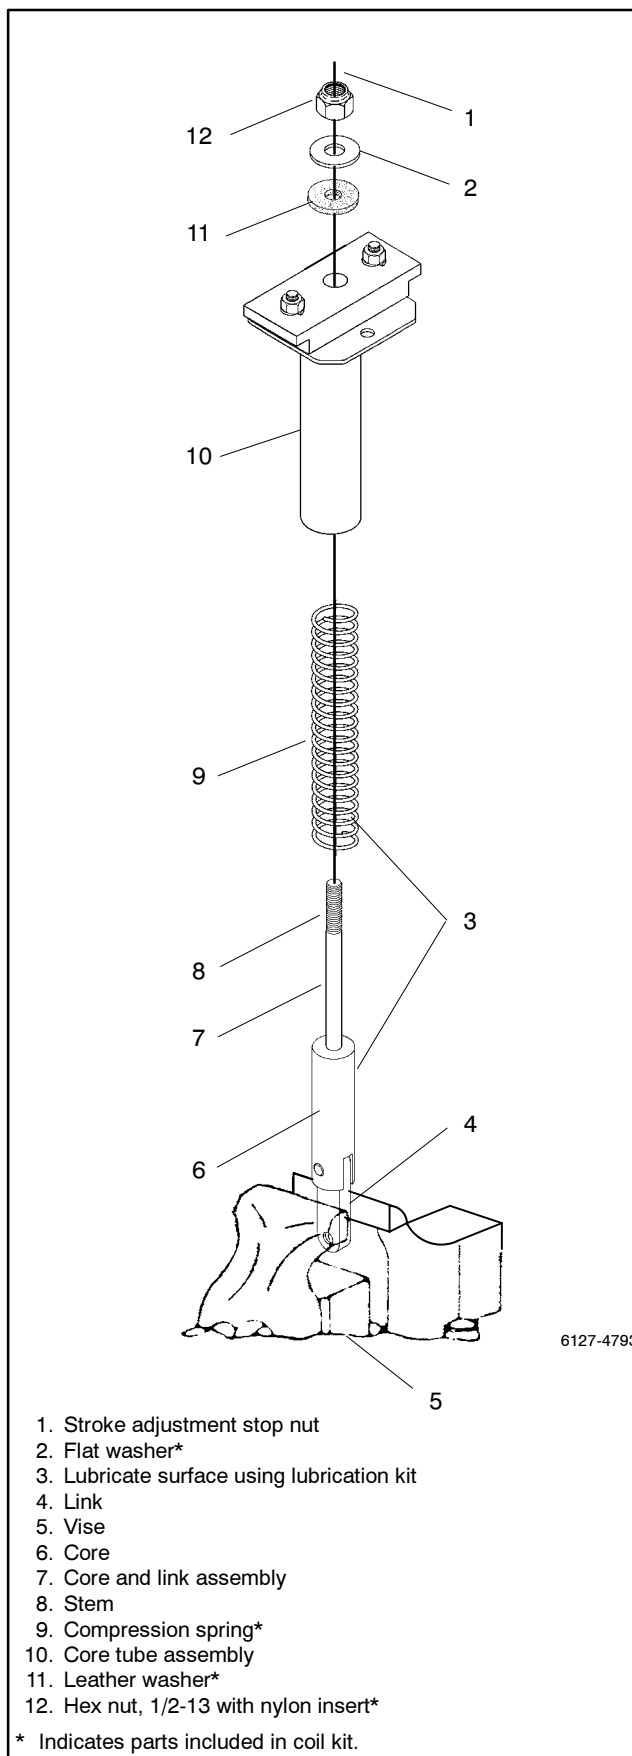
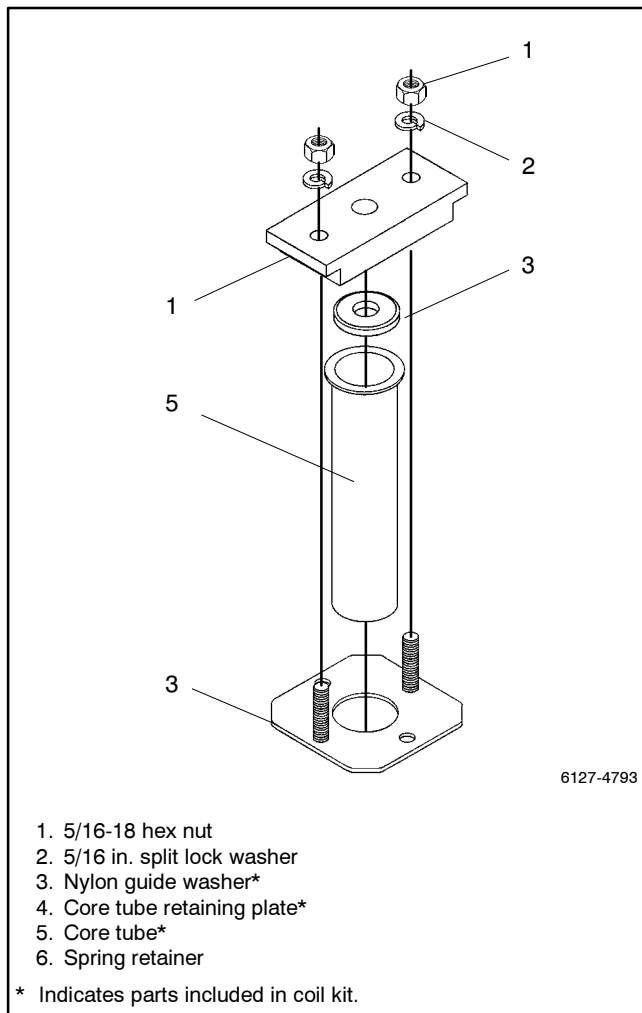

Figure 9-13 Core Tube And Core Disassembly
Figure 9-14 Core Tube Assembly
Disassembly of the core tube assembly is normally not required. If, however, the coil has overheated and has damaged the core tube assembly, rebuilding it is necessary. You will need an assistant to help you reassemble it, and you need to reset the stroke (explained in Sections 9.4 and 9.5). See Figure 9-13 and Figure 9-14.
1. Remove the core and compression spring. See Figure 9-13. Hold the link in a vise to secure the assembly. Use a 3/4 in. nutdriver or wrench to remove the center large hex nut from the threaded stem end of the core.
2. Take apart the core tube assembly. See Figure 9-14. Use a 1/2 in. nutdriver or wrench to remove the left and right hex nuts and lockwashers and pull the spring retainer off the core tube retaining plate. Then push the core tube through the retaining plate to remove it.
Replace damaged parts (core tube and core spring) and lubricate the core and core spring with Lubrication Kit GM24237 before reassembly. You will need an assistant to help compress the spring while you install the hardware. See Figure 9-13 and Figure 9-14.
1. Put together the core tube assembly Figure 9-14. Insert the core tube through the retaining plate (flared end seats on top). Then install the spring retainer (recessed hole inward) onto the retaining plate and use a 1/2 in. nutdriver or wrench to tighten the two 5/16-18 hex nuts on 5/16 in. lock washers.
3. Assemble the core, spring, and core tube assembly. See Figure 9-13. With the link held securely in a vise, set the lubricated core spring onto the core stem. Check to see if the nylon guide washer is still inside the spring retainer; if it is not, place it inside the spring retainer.